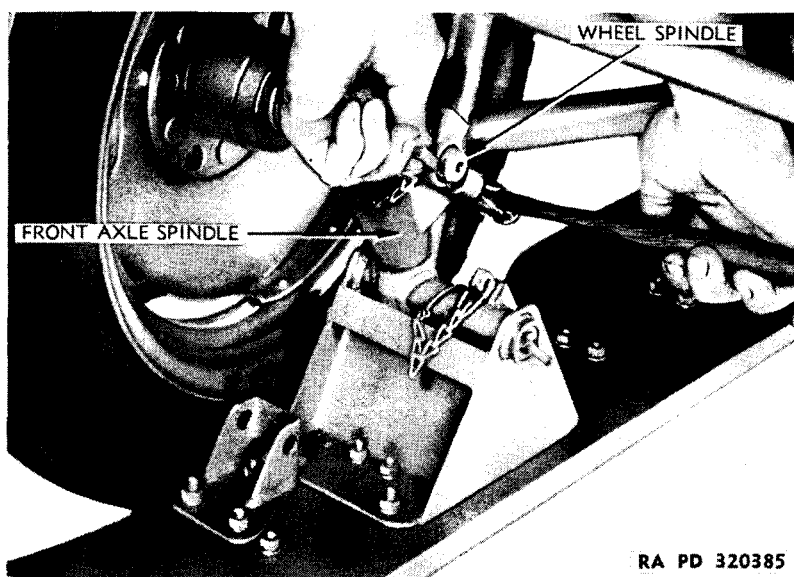
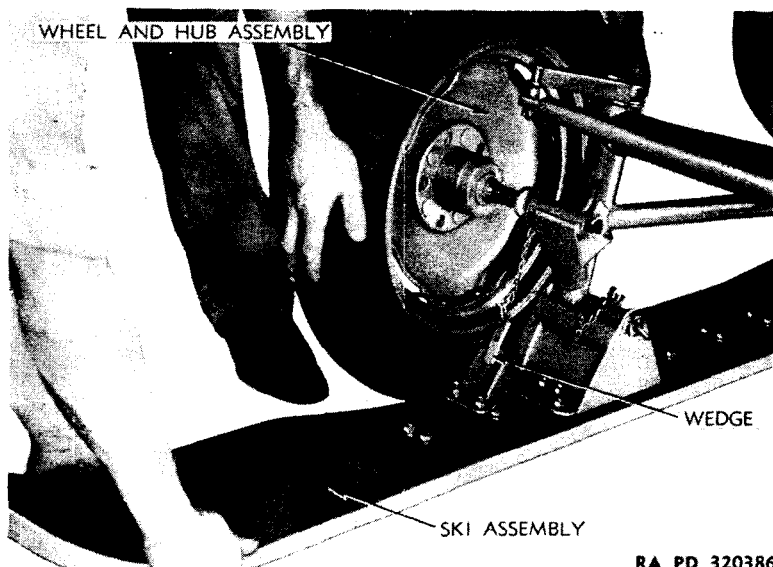

Figure 85—Removing Wheel Spindle Wedge
Figure 86—Removing Wheel Assembly
a. **Wheels.** The front wheel hub and spindle assembly is removable from front axle as a unit by tapping out wedge (fig. 85), and pulling spindle from socket (fig. 86). When not in use the wheels are carried on sides of vehicle by inserting spindle into hole in carrier at side of hood so that carrier stud protrudes through hole between hub bolts. Secure with wing nut. If skis are in use on front axle and wheels